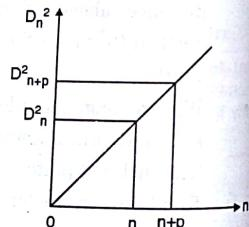

Fig. 2.3.2
- For more accurate approach we plot a graph of  $D_n^2$  vs  $n$  as shown in Fig. 2.3.2.
It is similar to Fig. 2.3.2.